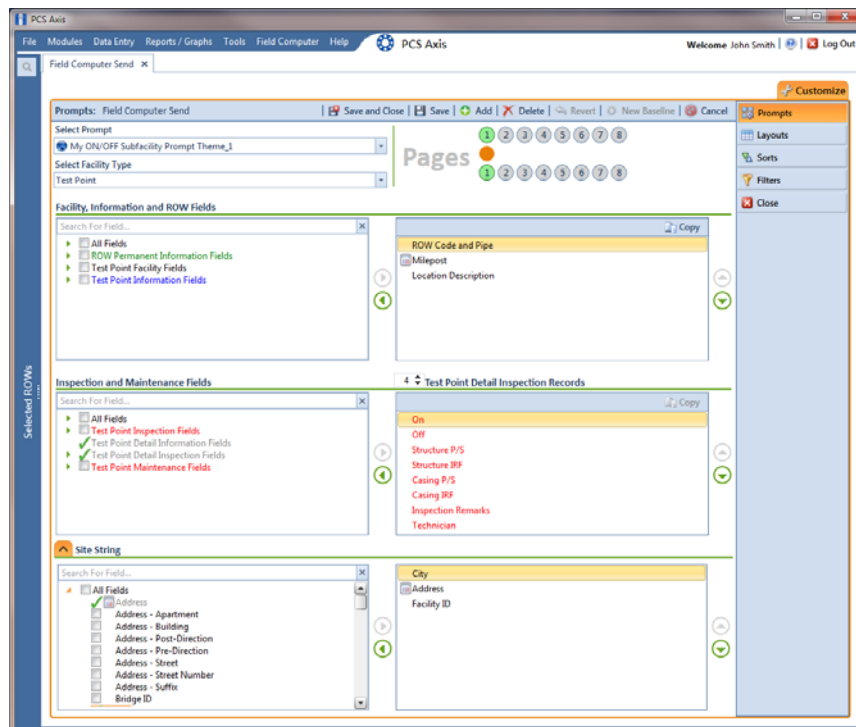

Figure 13-34. Site String
- a Click the  **Site String** tab to open the *Site String* pane (Figure 13-34).